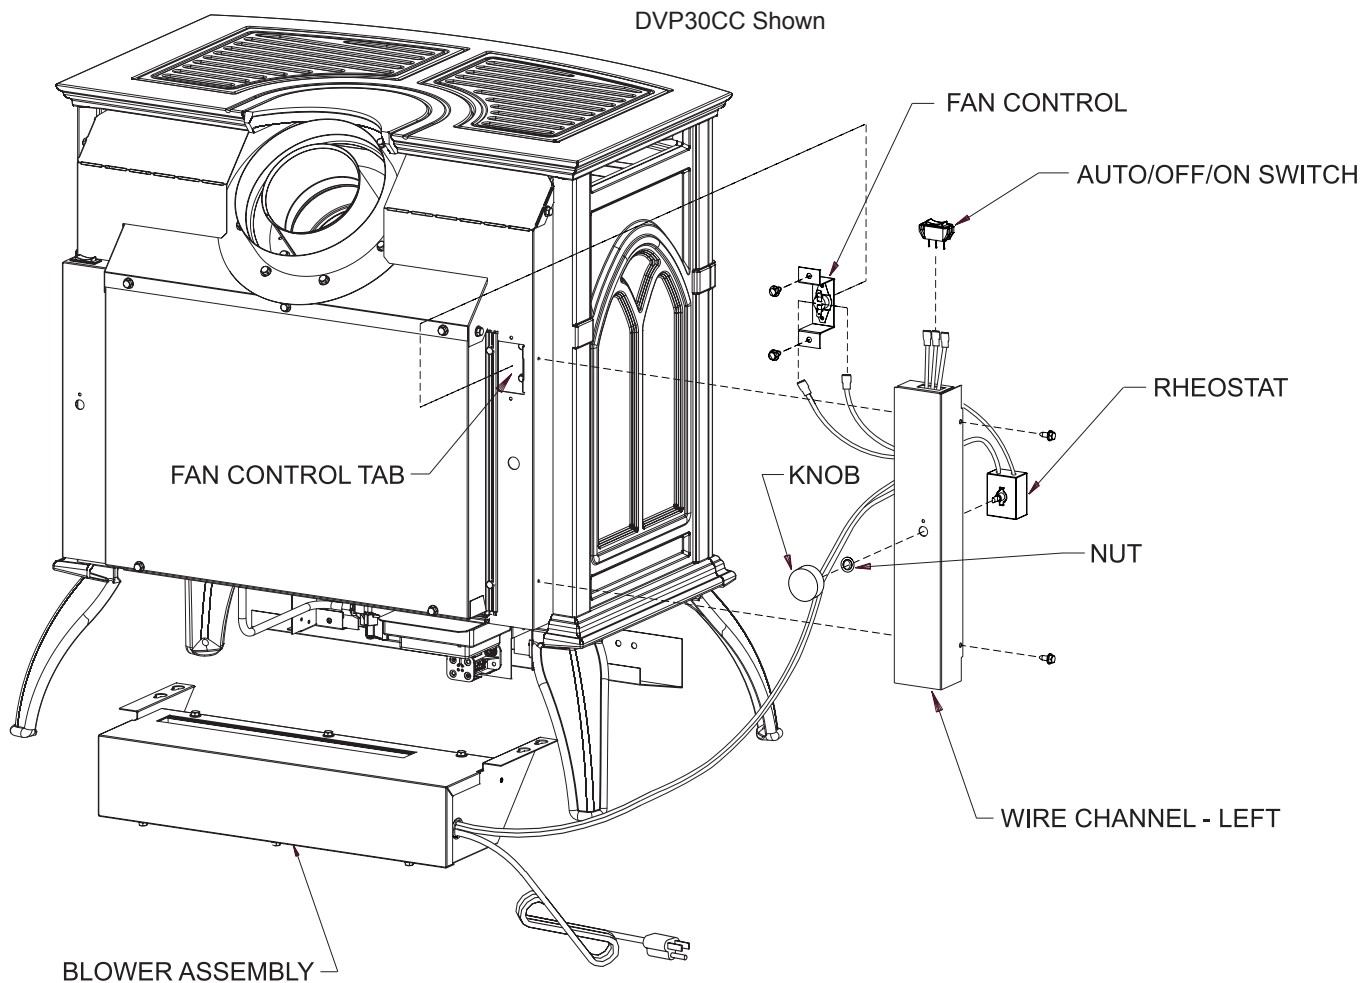

Figure 28 - DVP30CC Shown
4. Remove wire channel-left from appliance by removing 10 x 1/2" screws on left side of the appliance. **Note:** Some units require a new wire channel. If Rheostat mounting holes are missing from part removed from unit, discard wire channel removed from unit and continue installation with appropriate wire channel shipped with blower. **See Figure 28.**
13. Bend the fan control tab, located on the left side of the back of the unit, inward toward the unit. See Figure 28. Be sure tab is bent at least 90 degrees to allow fan control bracket to slide into slot.